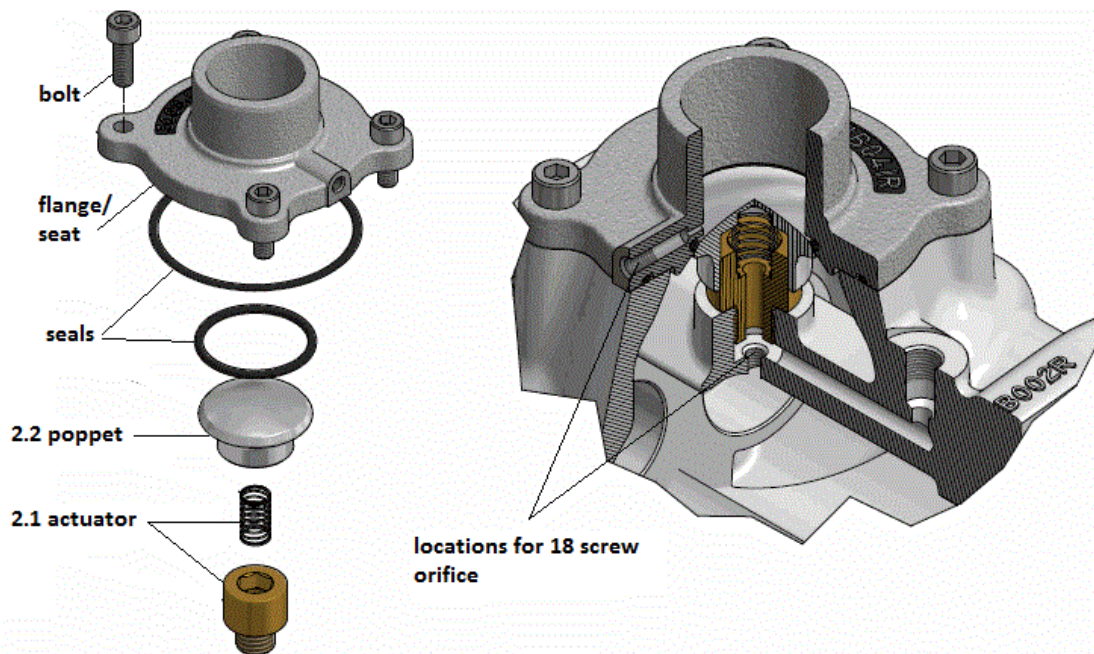

Figure 9-1 Inlet Valve Assembly (2)
This section will cover basic maintenance of various control devices used with the compressor package. Refer to Fig 9-1 for pictorial with general locations of these devices.
Inlet-Valve Assembly (2) - This device is located within and below the intake flange of the compressor - see Figure 9-1 for internal details and Figure 4-15 for schematic details.
4. Refer to Figure 9-1 for hardware details.